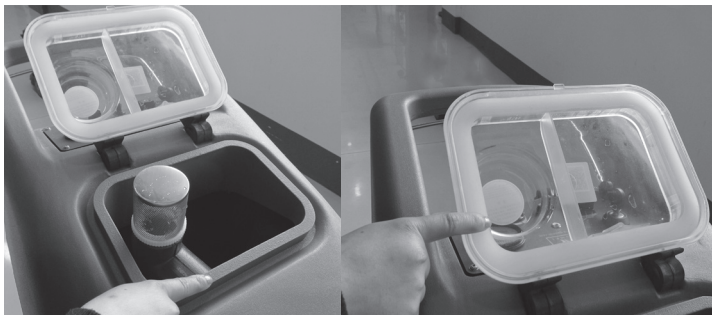

Figure 38
3. Check and clean the recovery tank cap (Figure 38). Replace it if it is damaged.